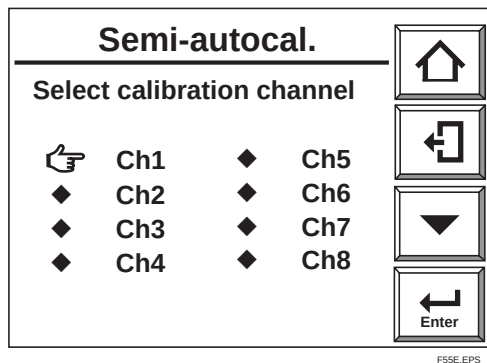

Fig. 9.8 Channel Select Display
- 2) Next select [Semi-auto calibration]. The [Semi-autocal] channel select display, Fig 9.8, is displayed.